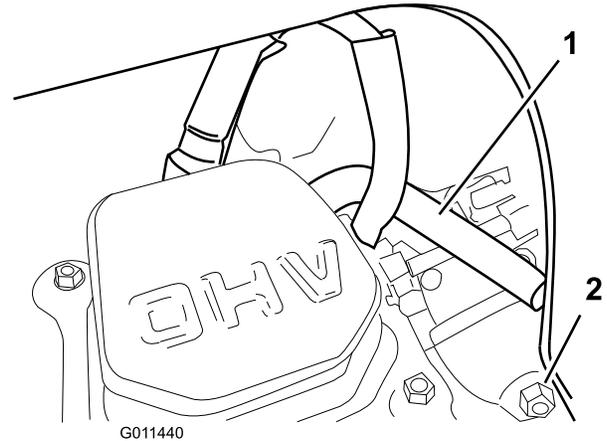

**Figure 36**
- Set the gap on the plug to 0.030 inch (0.76 mm) (Figure 36).